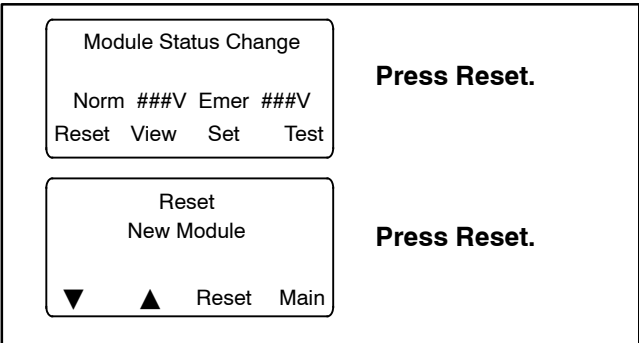

Figure 2-16 Screens after Module Connection
1. If the ATS display shows Module Status Change, press the Reset button. See Figure 2-16.
8. Close the enclosure door and reconnect power to the ATS. The display will show Module Status Change. See Figure 2-16.